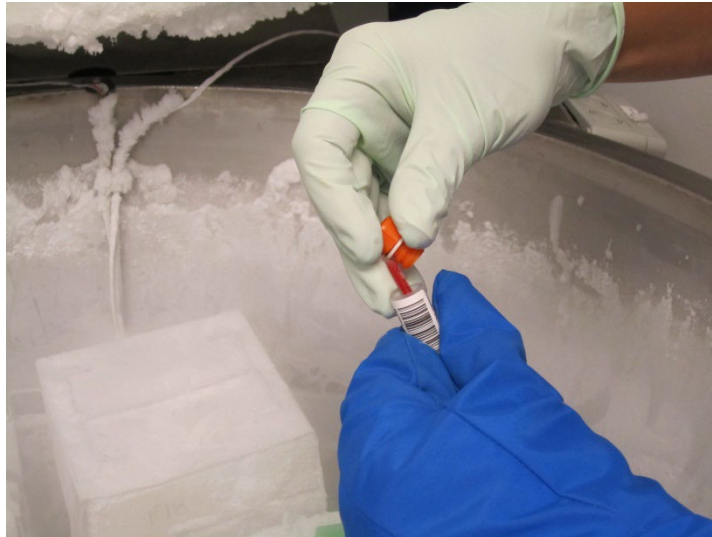

Figure 5c
- f. Place the segments in a labeled cryogenic vial (see Figure 5c) and return to LN₂ freezer. Segments may be stored in the liquid or vapor phase of liquid nitrogen as long as the temperature is maintained at less than -150°C.